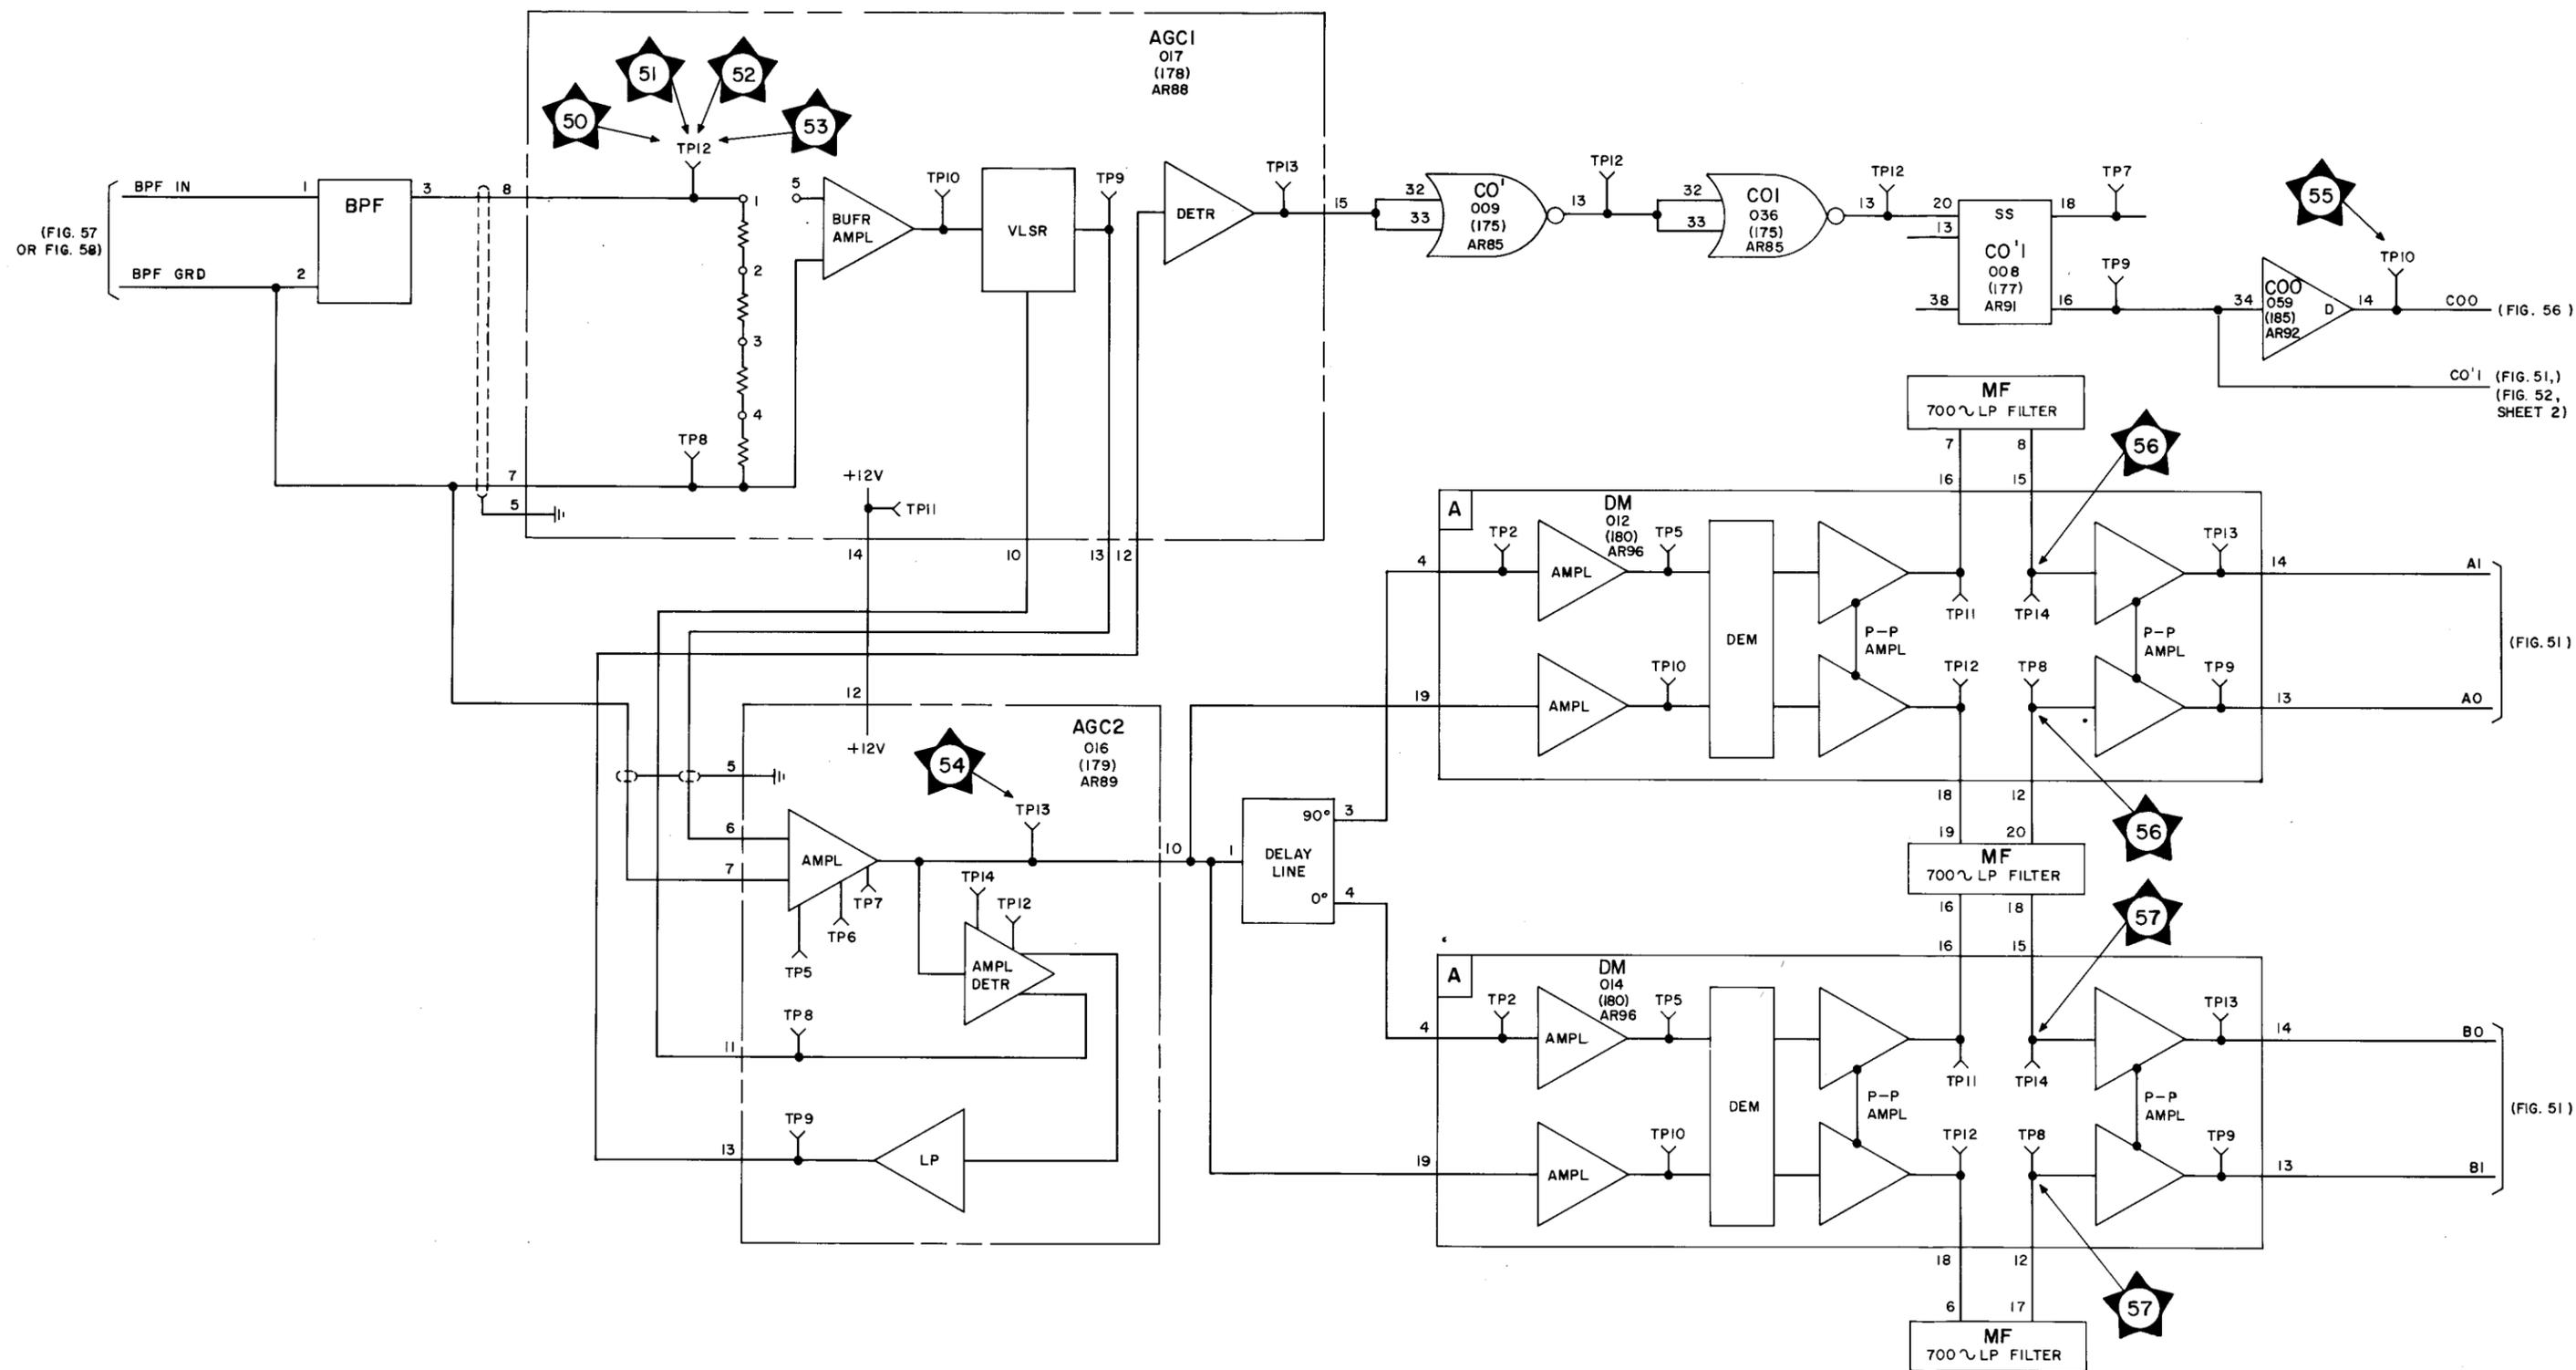

Fig. 42 — Analog Receiver, Functional Schematic
11.29 Voltage and waveform requirements shown in Fig. 35 through Fig. 41 are keyed to the functional schematic shown in Fig. 42. The waveforms are examples of normal operation for various code combinations the receiver will convert.